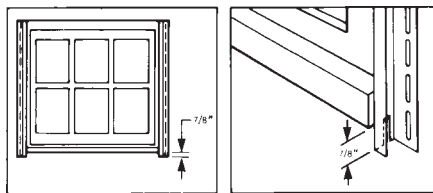

FIG. 10 Installation of Window and Door Trim
9.2.3.1 Install J-channel on each side of door and window frames extending from the top of the frames to the bottom of the sill for doors and extending below for windows the depth of the short exposed leg of undersill trim (typically $\frac{7}{8}$ in. (22 mm)) that will be installed below window sills. Notch the lower end ($\frac{7}{8}$ in. excess) to later accept the siding panel under the window. (See Fig. 10.)